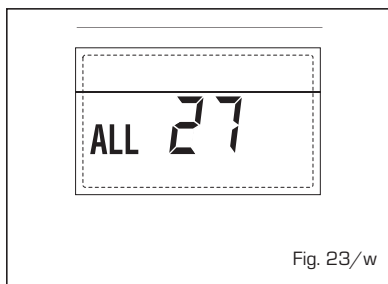

Fig. 23/w
- **NUMBER OF CONNECTED BOARDS ANOMALY "ALL 29"** (fig. 23/y)